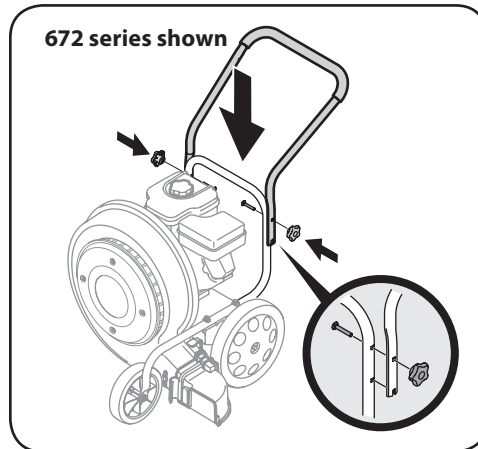

Figure 2-2
2. Place the upper handle over the lower handle, aligning the upper holes/metal tabs in the upper handle with the upper holes/lower holes in the lower handle. Secure the upper handle to the lower handle with the carriage screws (a) and star knobs (b). See Figure 2-2.